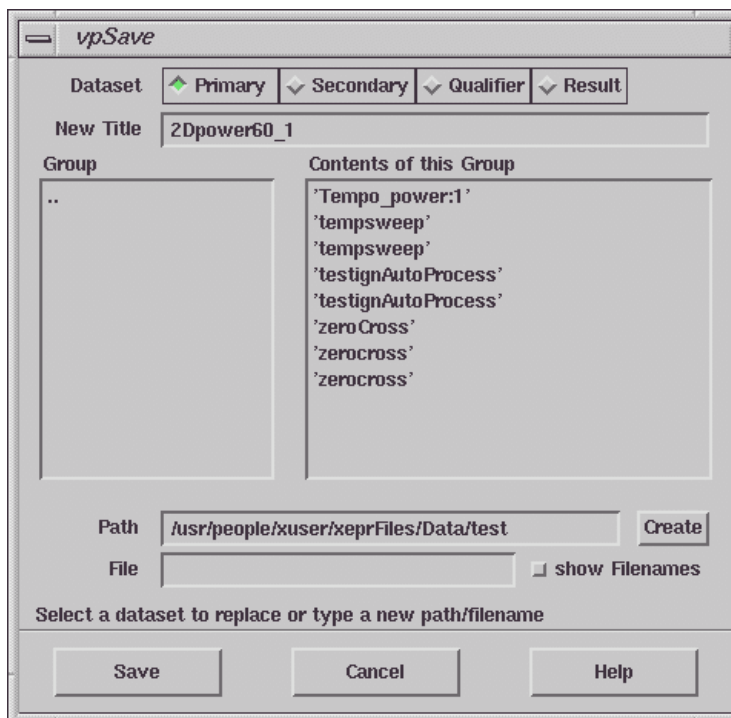

Figure 3-25 The Save dialog box.
2. **Save your spectrum.** Click the menu button in the viewport. Click **Save** in the drop-down menu. (See Figure 3-25.) Enter a descriptive title for the dataset in the Title box. The **Save** dialog box lets you enter a file-name and destination directory. (See Figure 3-25.) To select the desired directory, click the appropriate paths under **Group**. Clicking on `..` brings you to the parent directory. Enter the file name in the **File** box. Clicking **OK** saves the presently active spectrum on the hard disk. Note that the spectrum is also stored in memory when saved.